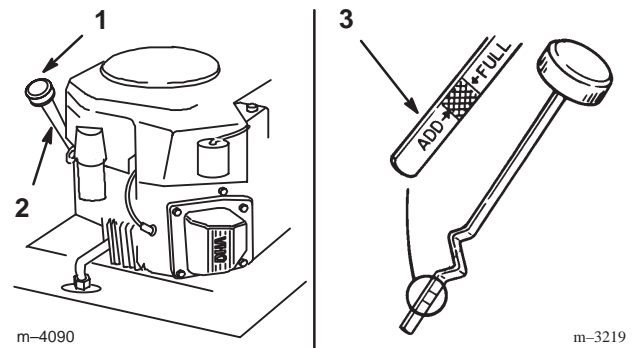

Figure 36
- Clean around the oil dipstick (Fig. 36) so dirt cannot fall into the filler hole and damage the engine.
- Unscrew the oil dipstick and wipe the metal end clean (Fig. 36).
- Slide the oil dipstick fully into the filler tube, do not thread onto tube (Fig. 36). Pull the dipstick out and look at the metal end. If oil level is low, slowly pour only enough oil into the filler tube to raise the level to the "FULL" mark.
- Slowly pour approximately 80% of the specified amount of oil specified, page 29, into the filler tube (Fig. 36). Now check the oil level; refer to Checking Oil Level, page 29. Slowly add additional oil to bring to "FULL" mark on dipstick.